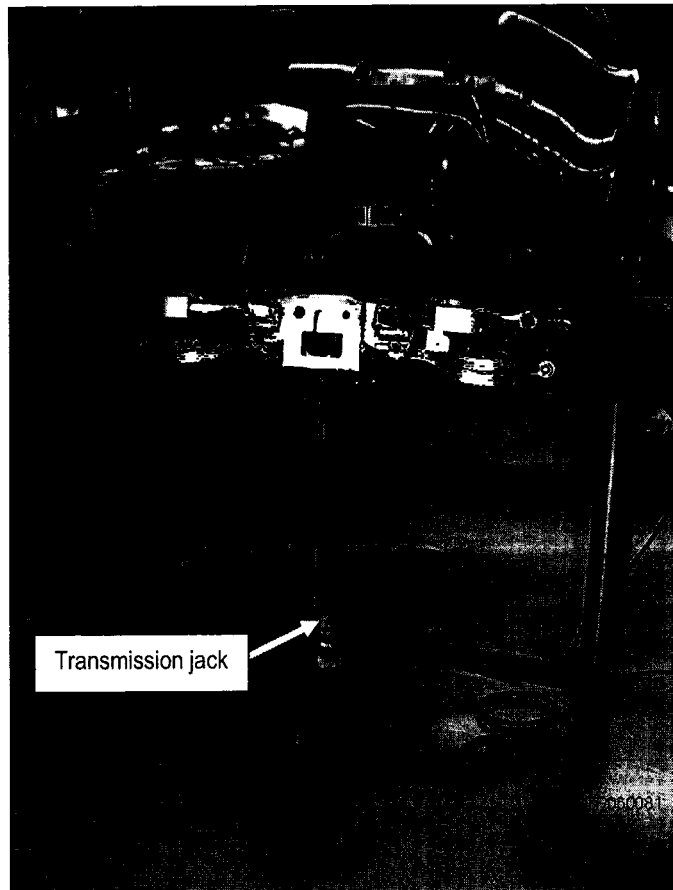

Figure 34
36. Carefully lower the suspension member (see Figure 34) and place it in a safe location away from "traffic".